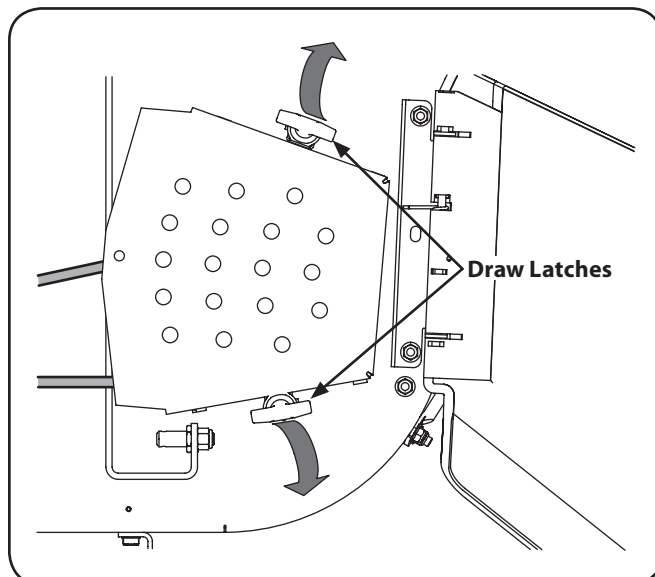

Figure 7-6
2. Route the PTO belt as shown in Fig. 7-6. After routing the belt around the PTO pulley, use a $\frac{1}{2}$ " drive in the idler pulley bracket and turn towards the right of the tractor to finish routing the belt around the idler pulley.
3. Pull the four draw latches up and away from the deck covers to unlatch and remove both covers. See Fig. 7-6.